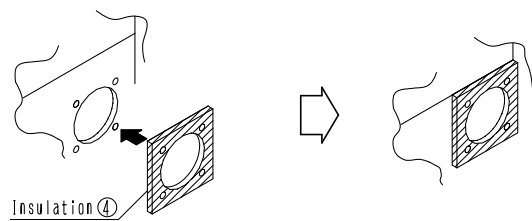

Fig. 2
2. Adhere the insulation④ for opening of unit to the opening, (Fig.2)